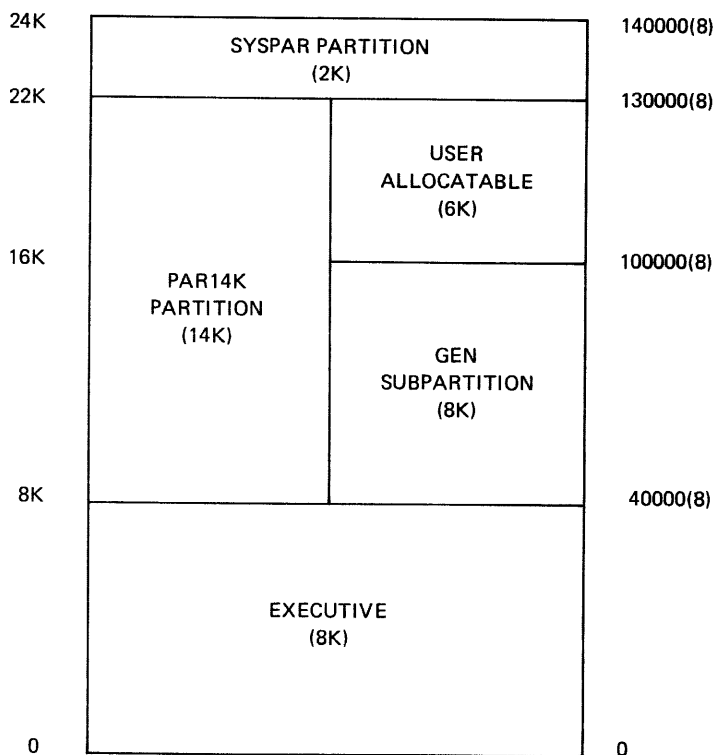
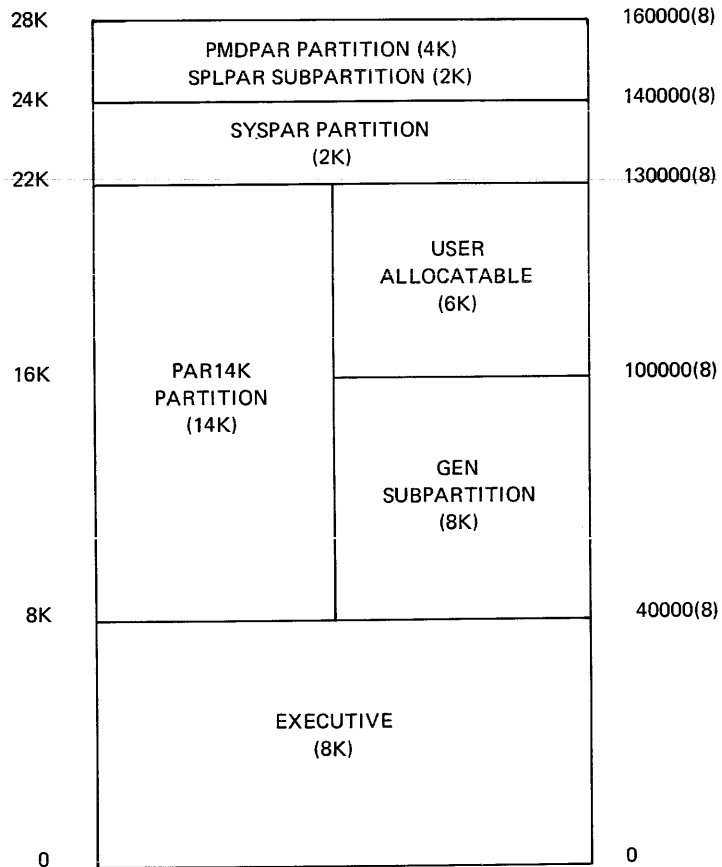

Figure 4-1 Typical Unmapped 24K System
Figure 4-2 Typical Unmapped 28K System
If, after the creation of the user-tailored Executive, \$SYTOP exceeds 30100(8), but is less than 40000(8), move the SYSPAR partition to avoid rebuilding all of the utility tasks. As a result only the task-build command files for MCR, FCPNMH, and TKTN need to be edited. Figure 4-1 depicts a suggested layout for a 24K system where \$SYTOP lies between 30100(8) and 40000(8).
Figure 4-1 shows that SYSPAR was moved from its location in the baseline system (refer to Figure 2-1). Moving SYSPAR requires the editing of the task-build command files for MCR, FCPNMH, and TKN. The partition PAR14K is now a real partition (rather than a pseudo partition, as was the case in a 16K system) and is correctly placed to run BIGMAC and BIGTKB without rebuilding them. Furthermore, because GEN has not been moved, tasks running in GEN do not need to be rebuilt. Finally, a 6K subpartition is available in PAR14K. You are free to divide this 6K memory block into any configuration of subpartitions that meets local requirements.
Figure 4-2 illustrates a suggested 28K unmapped system. It is identical to Figure 4-1 in its allocation of the 0-24K block of memory. The additional 4K is allocated to main partition PMDPAR that PMD uses. Also, the print spooler can use a 2K subpartition, SPLPAR, leaving an additional 2K to suit your requirements.